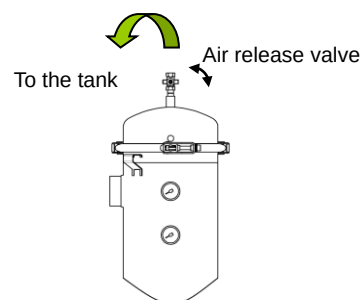

Fig. 1-2. Air release circuit
- ② Use the product in a circuit where no backflow occurs in the filter. If any backflow occurs, take appropriate measures, such as installation of a non-return valve. The riser piping at the outlet of the filter may also cause backflow. So, take appropriate measures shown above.
- ③ Fix the feet using the foundation bolts
- ④ Check the port size and use valves and fittings which are appropriate for the operating conditions. Prevent cutting chips and sealant material from getting inside the piping when connecting. Flush piping with air before operation and check there is no abnormality such as fluid leakage.
- ⑤ Fix the piping to the base using a saddle so that it is not subjected to vibration or weight.
- ⑥ It is necessary to discharge fluid from the reservoir for the replacement of the element. Connect piping to the fluid outlet to discharge fluid properly.
- ⑦ Connect piping so that air can be discharged. Piping whereby a small amount of air constantly returns to the tank by a resin tube from the air release valve is helpful to release air properly. (Fig. 1-2) If the location of the pump is high, the pump may idle when it is restarted. Release air at high position.